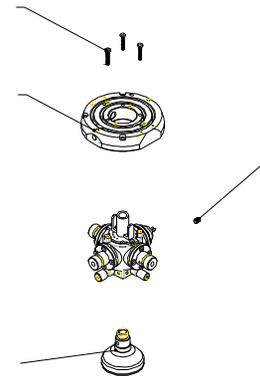

Figure 10
7. Using a 3/32" steel rod, remove off the pendulum module (5-6-6#) by turning it counterclockwise (while looking at it from the bottom). Reference see figure 10.